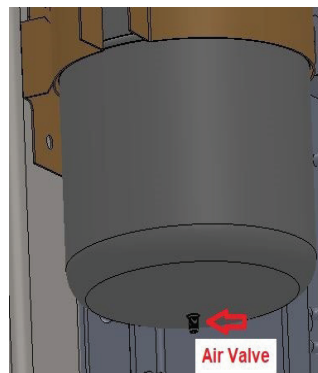

Figure 24: Schrader Valve Location
2. Check the pressure on the expansion tank, should be set to 12 psi. Use a pump to adjust as needed. (See Figure 24)